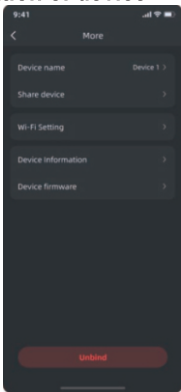

Figure 1
1) Figure 1: For the device owner, the following information is displayed from top to bottom: